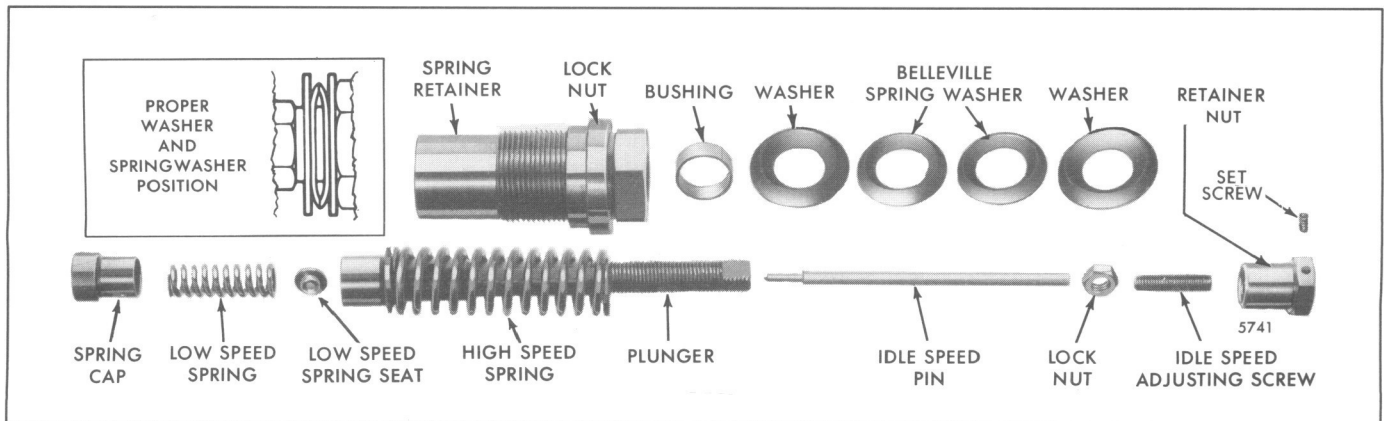

Fig. 14 – High and Low-Speed Springs and Plunger Details Including Belleville Washers (TTA Engines)
Before adjusting the gap on "TT" governors, the Belleville spring retainer nut must be backed out until there is approximately .060" clearance between the washers and the retainer nut (see Fig. 14).
7. Use a feeler gauge to set the gap between the low speed spring cap and the high speed spring plunger at .008". Then tighten the governor gap adjusting screw lock nut (see Figs. 14 and 15).
1. Position the idle screw. On all Non-“TT” governors with a normal 1.00" long idle adjustment screw, the screw should be set so that it extends .325". On all “TT” governors with a normal 1.00" long idle adjustment screw, the screw should be set to extend .400". This dimension is measured from the face of the idle speed adjusting screw lock nut to the end of the idle speed adjusting screw with a tolerance of  $\pm .015$ " (see Fig. 14). For governors with a variable high-speed option, which use a 1.75" long idle adjustment screw, the screw should be set to extend 1.075" on all non-“TT” governors or 1.150" on all “TT” governors.